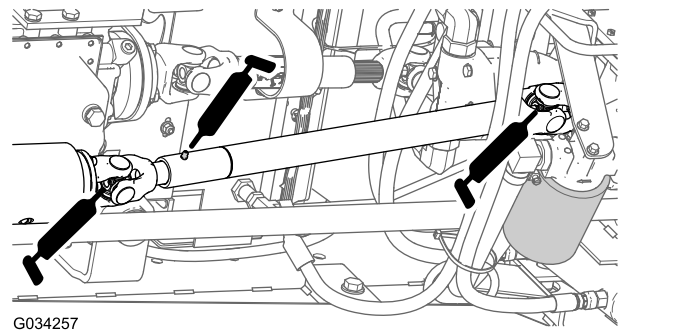

Figure 42
- Arbre de transmission (3) (Figure 42)